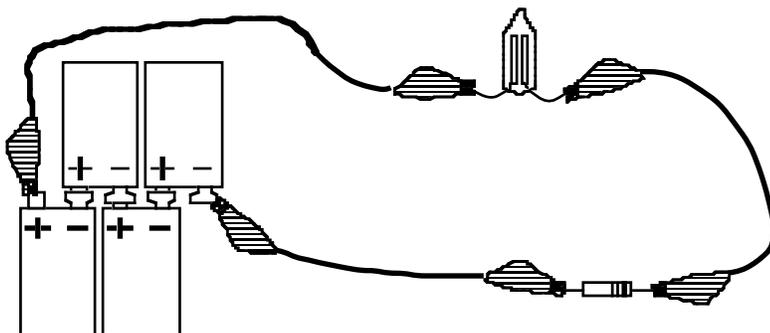

Figure 7.2
Identify one of the electrodes by putting a small piece of masking tape on one of the bulb’s two wires. Connect a yellow clip lead to the wire with the tape, and a green clip lead to the other wire. Clip four 9-Volt cells together in series, and then connect the free cell terminals to the clip leads as illustrated in Figure 7.2.
1. A neon bulb can be used to detect the direction of movement of charge passing through it. Refer to Figure 7.2. Note which electrode of the neon bulb glows. Disconnect both wires from the battery, then reconnect the bulb with the wires reversed. In each case, which electrode glows?